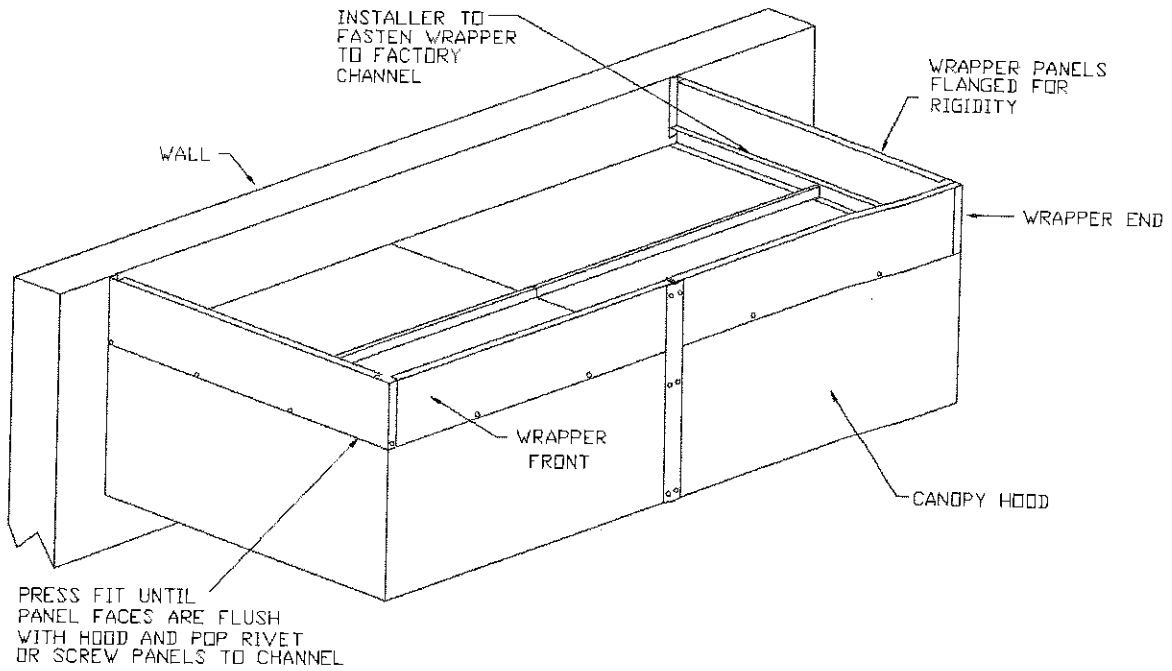

Figure 15
6. If multiple panels are used, a stainless trim piece will be provided to attach multiple panels together (i.e. hood is side to side, hood is back to back to another, or the wrapper length exceeds 16 feet). Attach the panels by slipping them behind the stainless trim and fastening with screws or rivets. **See Figure 15.** **NOTE: Trim will have to be cut to fit. In most instances, trim should extend from bottom of hood to top of wrapper panel.**